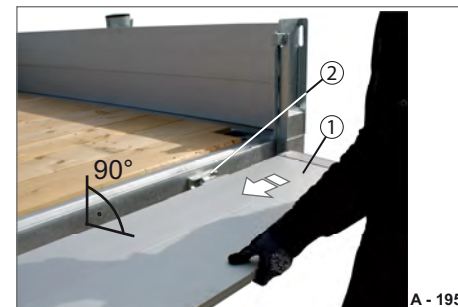

Fig. 136 Sliding in the platform gate
- Slide the platform gate (Fig. 136/1) into the platform gate hinges (Fig. 136/2).